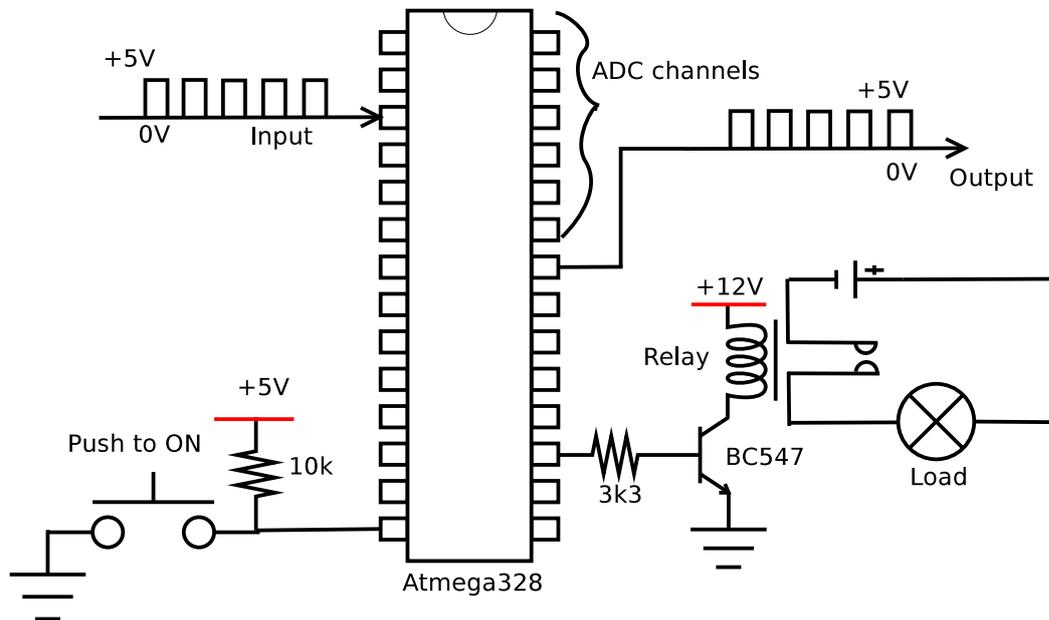

Figure 1.3: Devices connected to micro controller
Can you make a bulb ON & OFF 10 times in one second ? The controller can do this 10000 times (or more) in one second ! See the figure 1.3 on page 11. In this figure following devices are shown connected to the micro controller Atmega328:
4. The controller can produce a square wave of very high frequency as shown in the figure 1.3 on 11. This can be used as a signal to some other device.